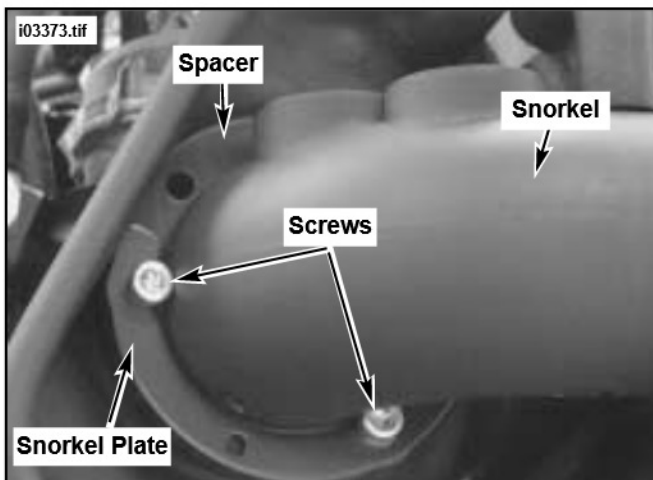

Figure 13. Install Snorkel Assembly
35. See Figure 13. Install snorkel by performing the following: